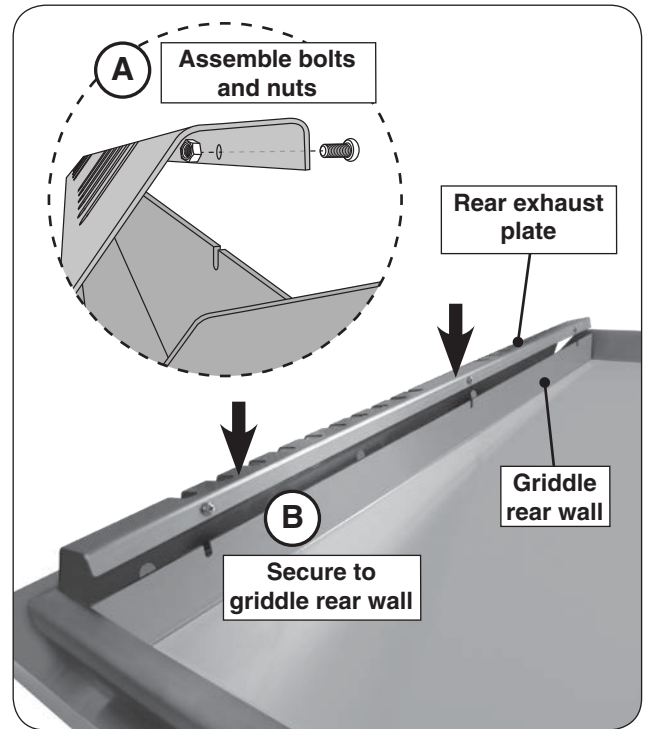

Fig. 18-1 Install rear exhaust plate
1. Assemble the provided bolts and nuts (loosely) to the three holes on the rear exhaust plate as shown in Fig. 18-1, A.
2. Align the exhaust plate with the three cutouts on the griddle rear wall and fasten (see Fig. 18-1, B).